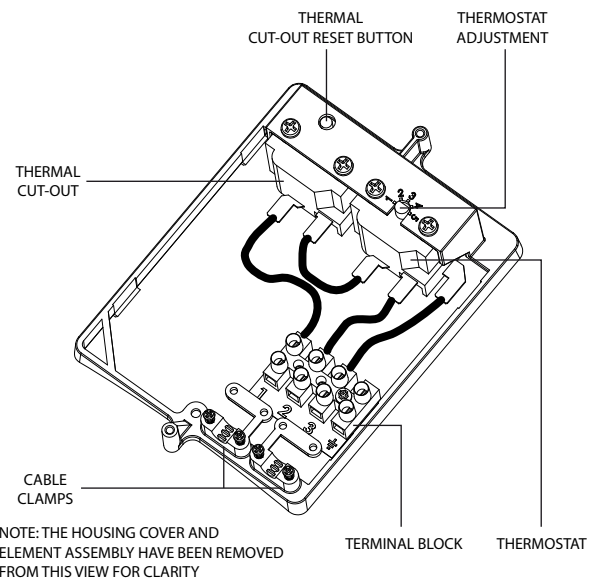

Fig. 10: Indirect thermostat and thermal cut-out
Fill the indirect (primary) circuit following the boiler manufacturer's commissioning instructions. To ensure the MAIN cylinder primary heat exchanger is filled, the 2 port motorised valve (supplied) should be manually opened by moving the lever on the motor housing to the MANUAL setting. When the primary circuit is full return the lever to the AUTOMATIC position. Switch on the boiler, ensure the programmer is set to Domestic Hot Water and allow the MAIN cylinder to heat up to a normal working temperature (60°C recommended, approximately graduation 4 on the thermostat). If necessary the temperature can be adjusted by inserting a flat bladed screwdriver in the adjustment knob (located on top of the thermostat mounting bracket - see Fig.10 Page 13) and rotating. The minimum thermostat setting is 10°C.
5. INDIRECT thermal cut-out has operated.	5. Check. Reset by pushing button on cut-out. (Fig. 10 Page 13). Check operation of indirect thermostat.